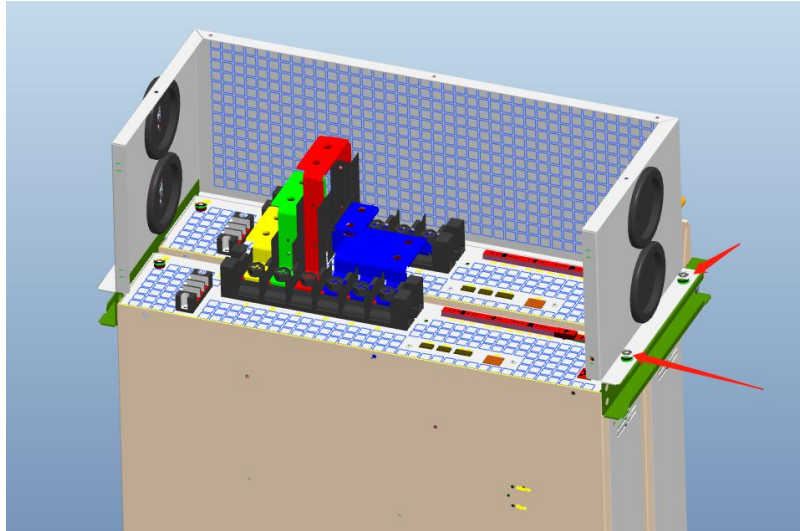

Figure 11
8、 Place the top cover in the position of Figure 11, and fix both ends with 2 M6x16 cross hexagonal combination screws; Fixed back to start the power line and signal line, L1/L2/L3 phase to the left two inlet holes, N phase and model line to the right two inlet holes;